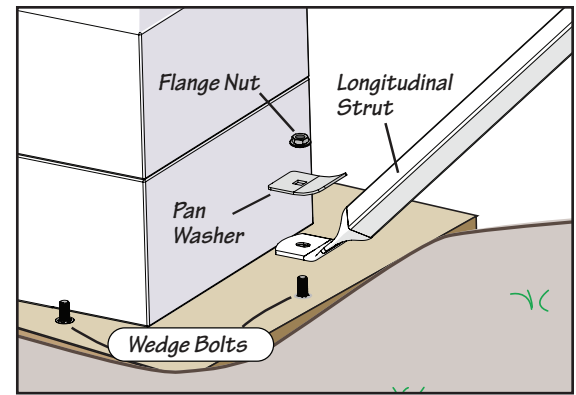

Fig. 4-1
- Slide a pan washer over the wedge bolt and install a flange nut over the wedge bolt as shown right in Fig.4-1
- Slide a pan washer over the wedge bolt, install a flange nut over the wedge bolt as show right in Fig. 4-1